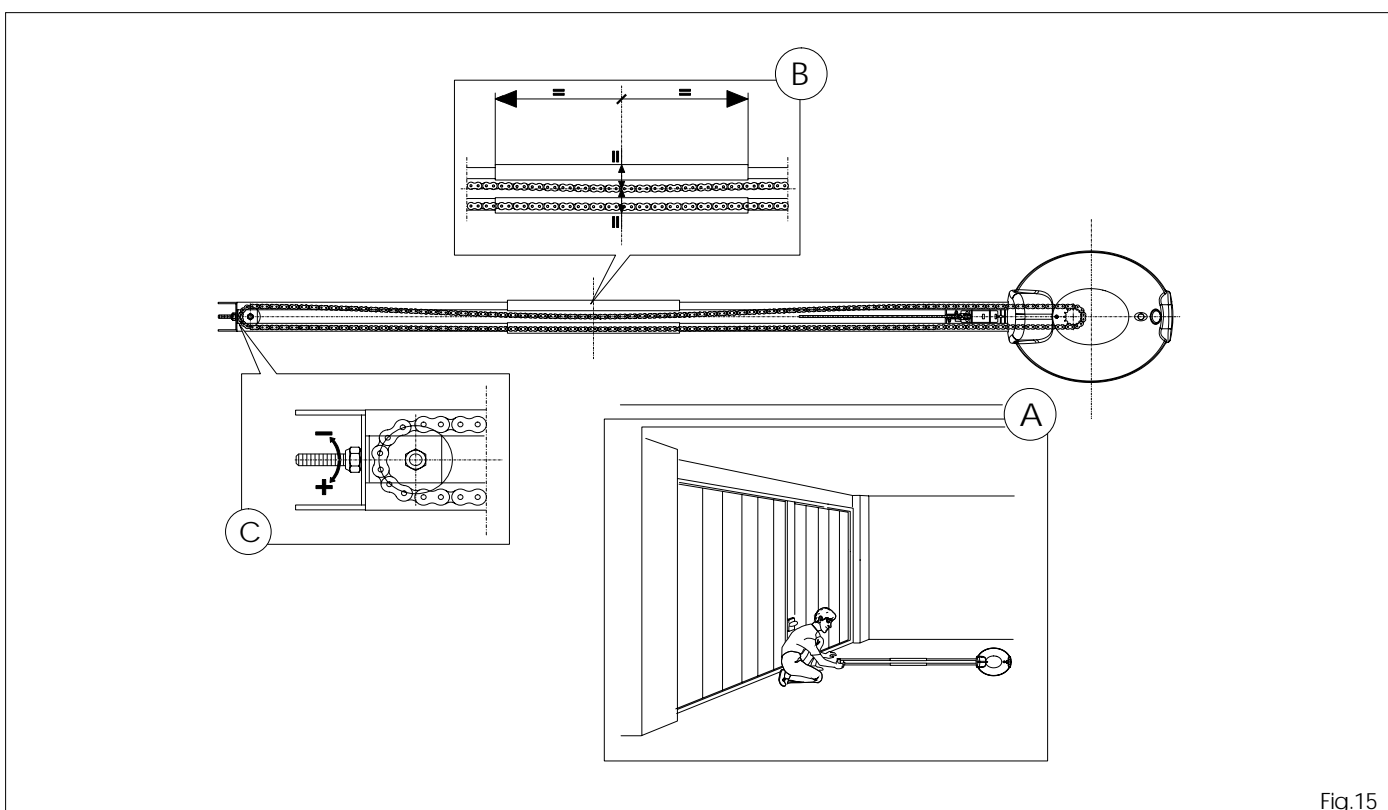

Fig.15
5.11 Position the operator on the ground, vertically respect to floor (fig. 15 ref. A).
5.12 Check chain tension, making sure that these distances are equal (as shown in fig. 15 ref. B) : lower chain - upper chain; upper chain - upper rail joint.
5.13 Adjust chain tension if necessary, using the nut as indicated in fig. 15 ref. C.